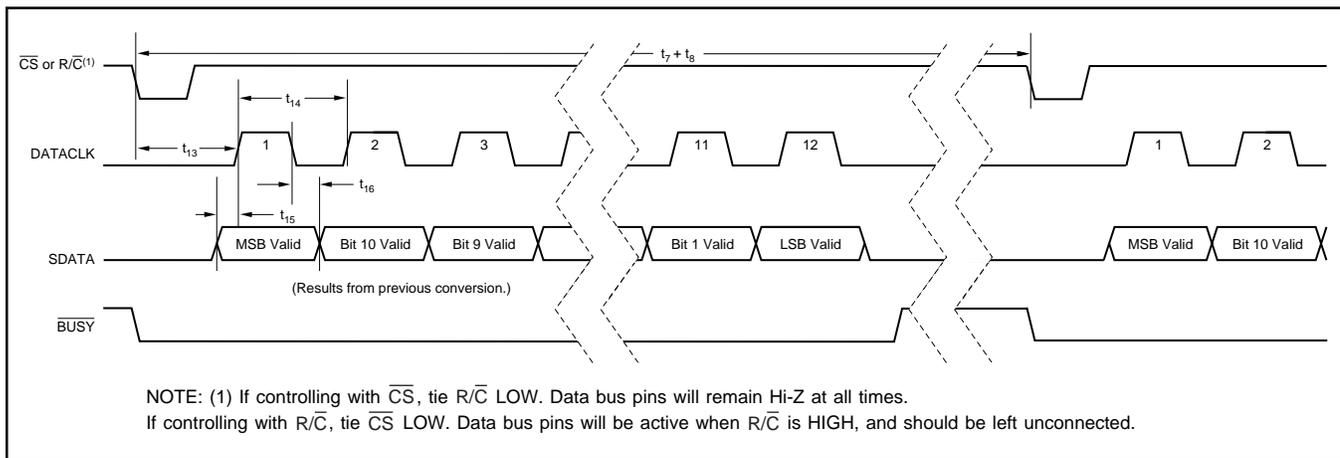

FIGURE 4. Serial Data Timing Using Internal Data Clock (TAG tied LOW).
NOTE: (1) See Figures 4, 5, and 6 for constraints on data valid from conversion 'n - 1'.
To use the internal data clock, tie EXT/I_{INT} (pin 8) LOW. The combination of R/C (pin 22) and C_S (pin 23) LOW will initiate conversion 'n' and activate the internal data clock (typically a 900kHz clock rate). The ADS7806 will output 12 bits of valid data, MSB first, from conversion 'n - 1' on SDATA (pin 19), synchronized to 12 clock pulses output on DATACLK (pin 18). The data will be valid on both the rising and falling edges of the internal data clock. The rising edge of BUSY (pin 24) can be used to latch the data. After the 12th clock pulse, DATACLK will remain LOW until the next conversion is initiated, while SDATA will go to whatever logic level was input on TAG (pin 20) during the first clock pulse. Refer to Table VI and Figure 4.